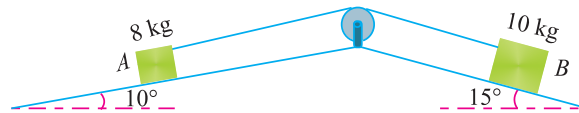

Fig. 25.21.
2. Two bodies A and B of mass 8 kg and 10 kg are placed on two smooth inclined planes as shown in Fig. 25.21.